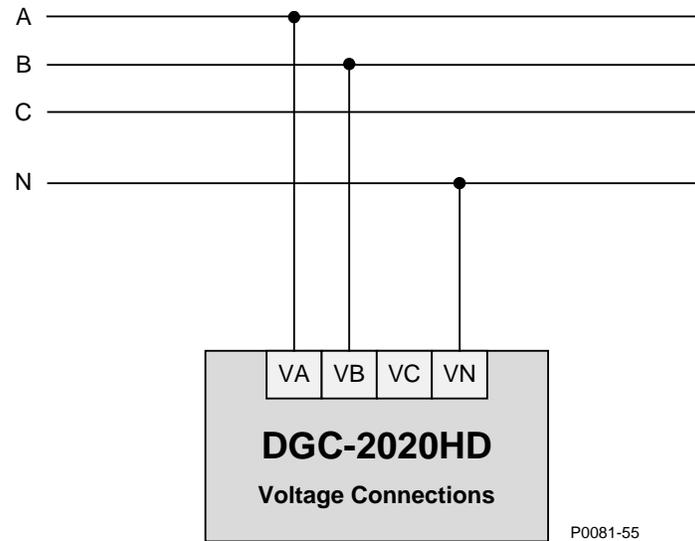

Figure 8. Single-Phase A-B Connections
- Single-phase A-B..... Figure 8
Figure 8 illustrates typical single-phase A-B connections for all DGC-2020HD bus voltage sensing connections: Generator, Bus 1, and Bus 2. Use the terminal numbers listed below for connecting the desired bus type. Refer to the *Terminals and Connectors* chapter for rear panel terminal numbering.